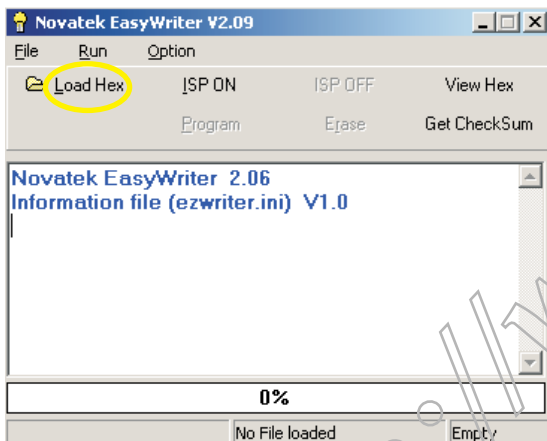
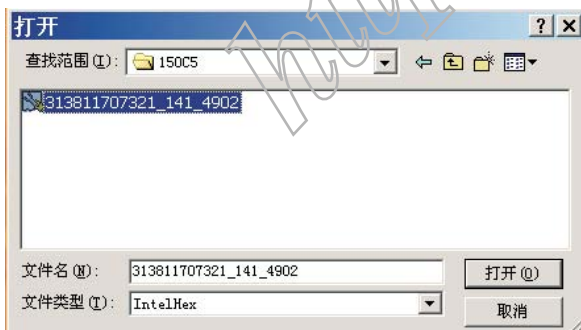

Fig. 8
Fig. 9
2. Press the "Load hex" button then select the 313811707321_141_4902 As shown in Fig. 8 and Fig. 9.